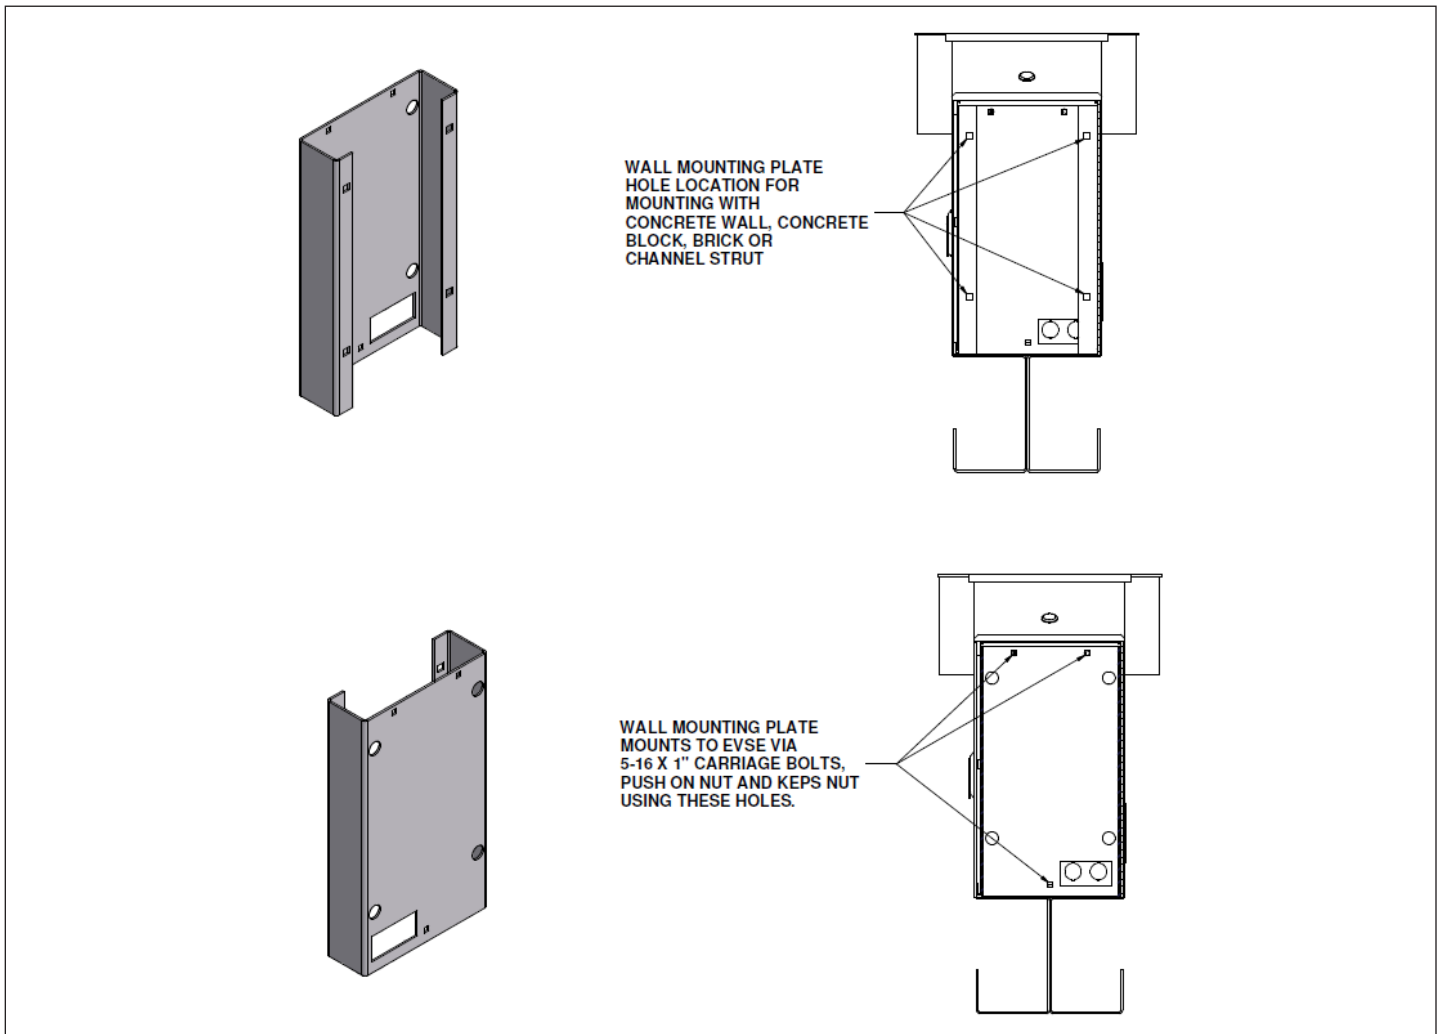

Figure 5. Typical Wall Mounting.
- Step 4:** Attach mounting plate to the wall as shown in **Figure 5**. If installing on a wood stud, use 5/16" or 3/8" x 3" long Lag screws and washers. These should be galvanized or stainless steel for weather protection if mounting outdoors. If mounting onto a concrete, block, or brick wall, use an appropriate anchor for the type of wall on which you are installing the unit. Again, these should be appropriate for weather